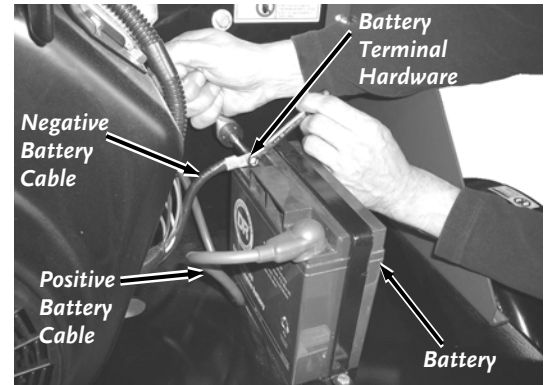

Figure 10
1. Remove the hardware from the negative terminal of the Battery with two 5/16" wrenches (**Figure 10**).